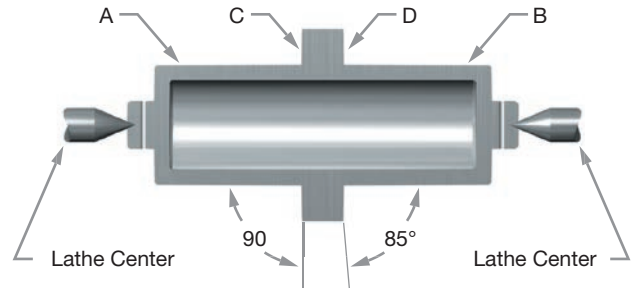

Figure 25: Nozzle Lap in a Lathe
Machine the standard disc seating surface (see Figure 25) as follows:
1. Grip the disc (6) in a four-jaw independent chuck (or collet, if appropriate), using a piece of soft material such as copper or fiber between the jaws and the disc (see Figure 25).
2. True-up the disc (6) so that the surface marked B and C run true within .001" (0.025 mm) on the total indicator reading (see Figure 25).
- Discard the disc if the minimum dimension N or T (Figures 30a, 30b, 30c and Tables 5a and 5b) is reached. Do not reestablish surface C (see Figure 25).